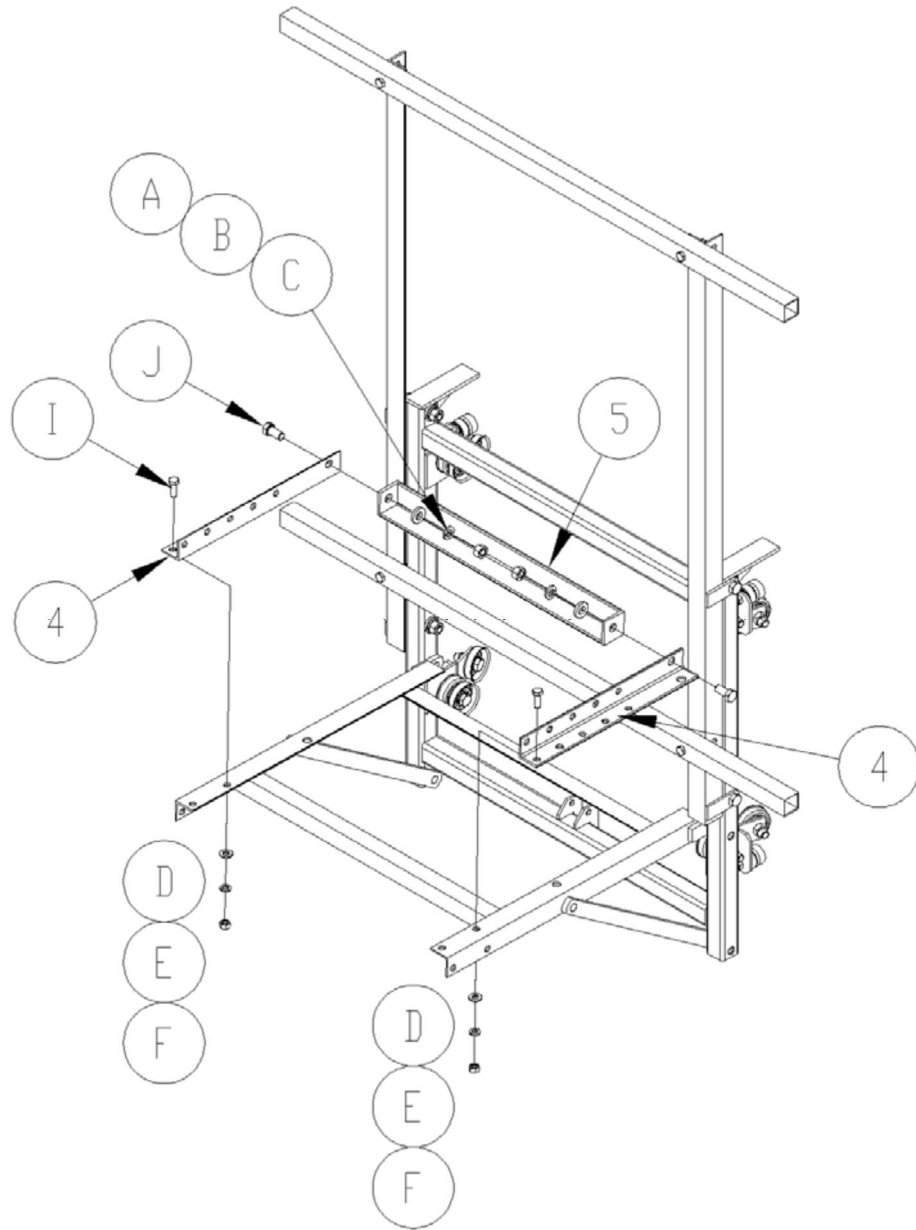

Figure 3
4. Mount the lower adjustable stop angles as shown in Figure 3. Orient the lower stop angle (5) with the foam-lined leg facing toward where the solar panel will be placed. The lower stop side angles (4) can be positioned to locate the stop angle (5) closer or further on the carrier. Adjust the angles to the desired location to accommodate the number of panels that will be carried up.